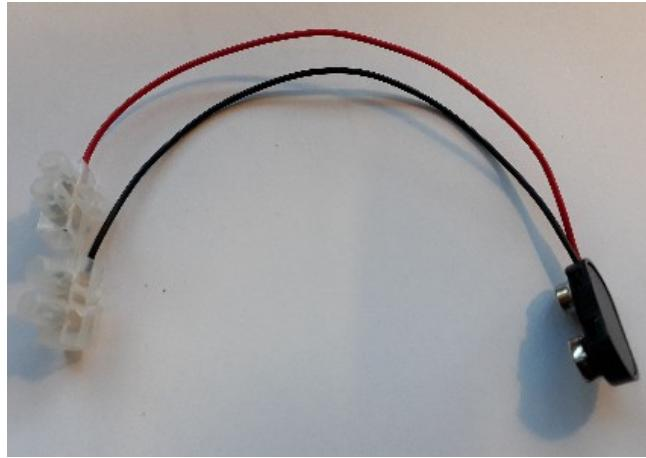

Figure 9: Adding junction boxes to the battery clip
Step 8: You should, have a battery clip in your box (it's the sort of clip you would expect to attach to a 9V battery), attach two single junction boxes to it as shown in the figure 9. The junction boxes come in strips of 10, to get a single one, just twist or cut one off the strip. You may also have to use the wire cutters to remove a bit of wire so the wires can be easily screwed in to make a good contact.
Step 15: The threaded posts can now be attached to each corner of the base plate. The posts can be placed in all four corners of the base plate as shown in figure 9, and then secured in place with nuts as shown in figure 18.